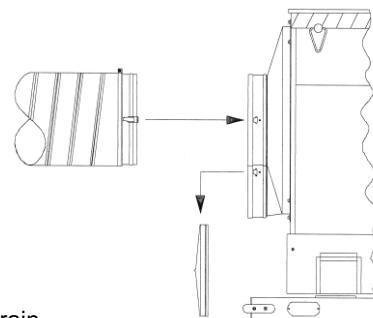

FIGURE 8
2. Place air duct in aircraft and ensure that the opening is unobstructed. Remove yellow output air duct from the storage compartment located under the unit. Remove yellow dust caps from the input and output duct openings located on the back of the air conditioner and place in the storage compartments. Attach yellow output air duct to the air conditioner via the duct opening located on the back of the air conditioner. **See Figure 8.** Place other end of yellow duct into the aircraft.